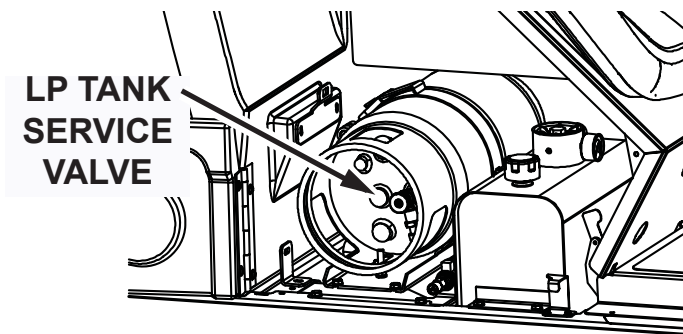

Fig. 1: LP tank, service area
7. On LP powered machines turn the LP tank service valve OFF. To turn valve OFF, turn the valve clockwise until it stops. The valve is located on the LP tank. (See Fig. 1)